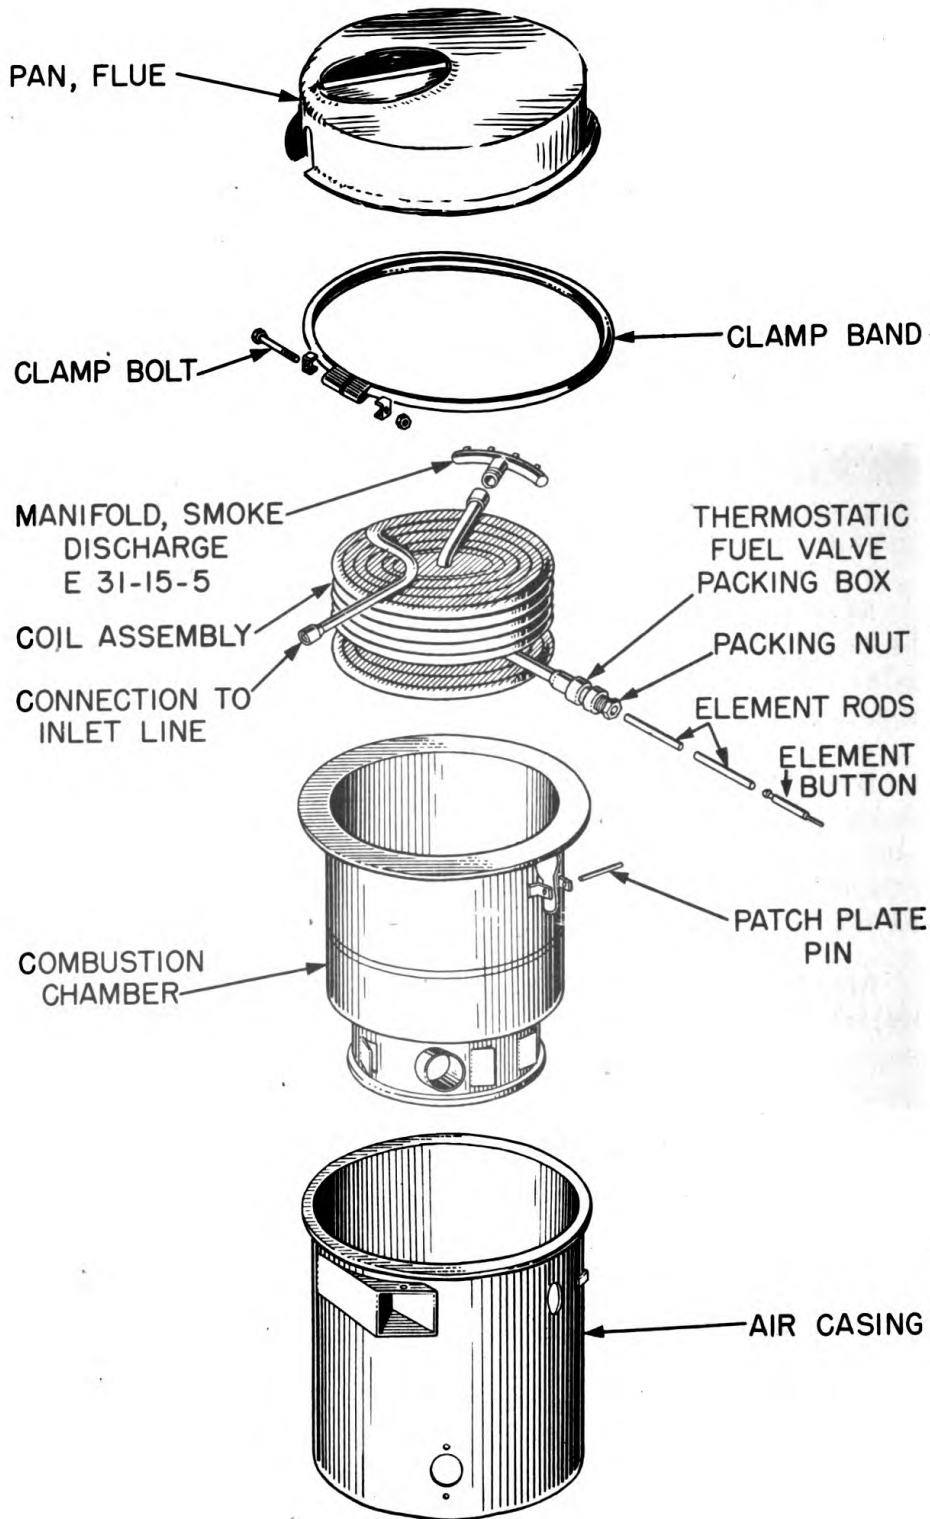
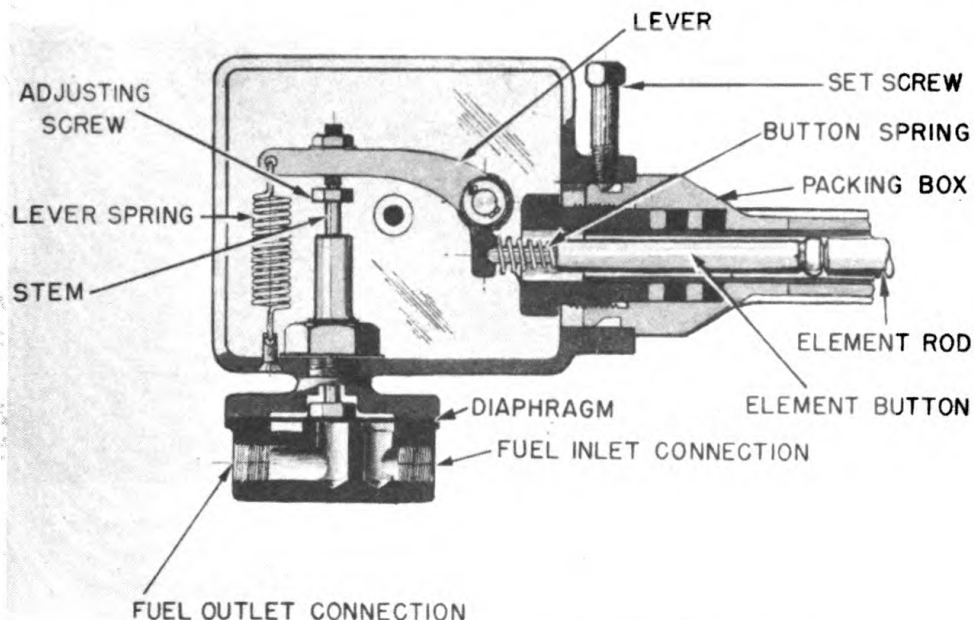

Fig 73. Furnace assembly disassembled, showing Chemical Warfare Service nomenclature of parts.
Fig 76. Diagram of thermostatic fuel valve.
a. General. Figure 73 shows furnace assembly parts disassembled. Coil assembly rests inside combustion chamber and is attached to inlet line as shown, and to outer parts of thermostatic fuel valve by the thermostatic fuel valve packing box. Flue pan is held to air casing by clamp band.
Release clamp band by loosening hex nut of clamp bolt (figs 73 and 74) Pry clamp band loose with heavy duty screw driver, if necessary.
Unscrew manifold to remove, and reverse procedure to install. If force is necessary, use pipe wrenches. (Fig 73)
c. Remove thermostatic fuel valve packing nut (fig 73) with adjustable wrench.
a. Place coil in combustion chamber by inserting thermostatic fuel valve packing box through larger part of slot and pushing coil down until it seats snugly inside chamber. (Fig 73)
a. Illustration. Reference to figure 73 and to diagrammatic drawing of thermostatic fuel valve in figure 76 will aid in understanding how valve works.
b. Inside furnace assembly. Packing box of valve is a tubing, inside which are two quartz element rods and a device known as the element button (fig 73). Packing box is located inside furnace assembly and is an extension of tubing of coil assembly.